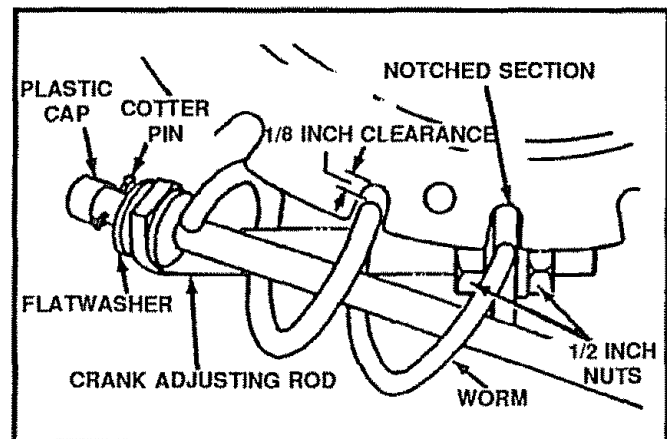

FIG. 5
- Remove the plastic cap, the cotter pin and the flatwasher from the wormed end of the crank assembly and set aside (See Fig. 5).
- Install the wormed end of the crank through the hole in the adjusting rod and secure the end with the flat washer and cotter pin, as shown in Figure 5.
- Rotate the chute crank fully clockwise and fully counter-clockwise. The discharge chute should rotate fully to the outer diameter of the worm and should clear approximately 1/8" (See Fig 5). If the chute crank needs to be adjusted, go to the Service and Adjustments section on page 18.